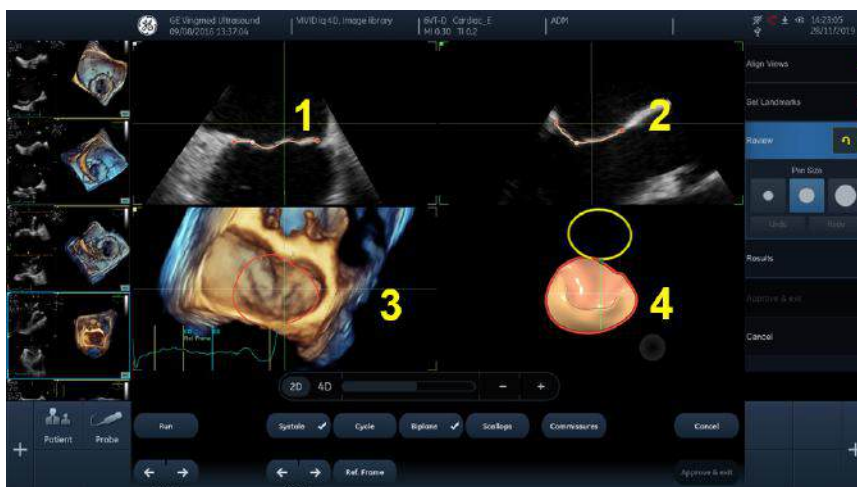

Figure 8-56. The Review stage
The default screen displays: (1) MC long axis views, (2) LAX views, (3) short axis 3D view at the annulus plane aligned according to surgical view (the 3D looking from atrium to MV and with aortic valve on top) and (4) an interactive 3D view of segmented MV (Figure 8-56).